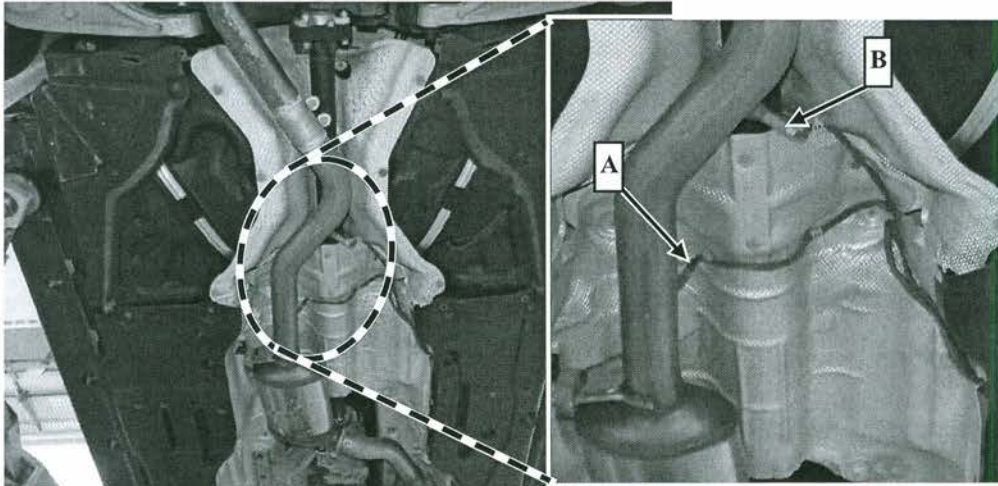

Figure 8
10. Replace NOx sensor A 000 905 58 12 80 (A, figure 8) and particulate sensor A 000 905 10 08 (B, figure 8), rear, on SCR catalytic converter (AR14.40-P-2038GQ).